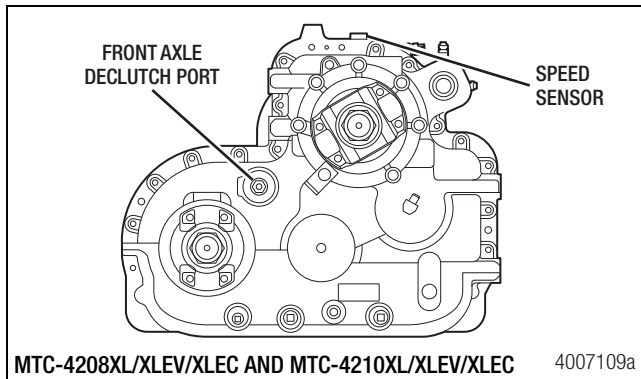

Figure 7.49
3. If removed, install the speed sensor into the top of the transfer case. Figure 7.49. Fasten with a capscrew and washer.
1. Apply 60 psi (4.14 bar) or greater of air pressure to the front axle declutch. Figure 7.49.